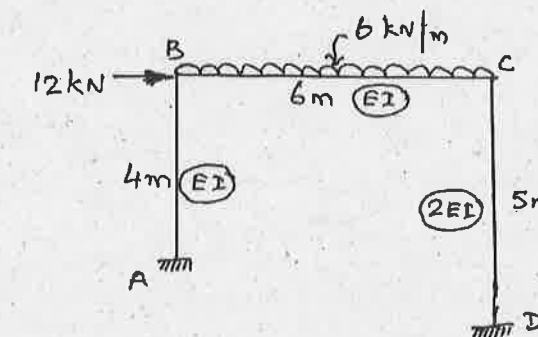

Fig Q. 14 (b)
- (b) Analyze the portal frame shown in Fig.Q.14 (b) by slope deflection method and draw the bending moment diagram.
- b) Analyse the frame shown in Fig. Q. 14.b. by slope deflection method.